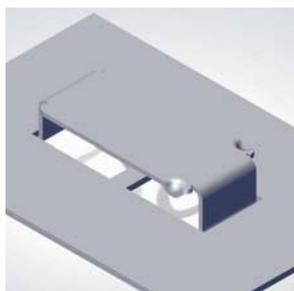

Fig. 3: Rectangular Float Valve
**Rectangular float valves** (see Fig. 3) have two legs in flow direction. The values for panel and curtain area of the type "BDH" is very similar to the V1 valve data. The "BDP" type has twice the length of the BDH.